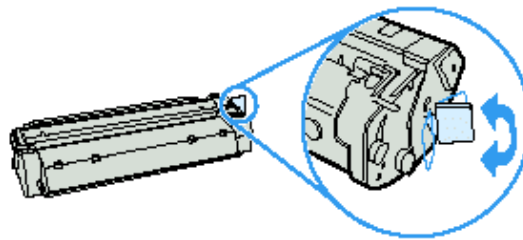

Figure 4. Bending And Breaking The Tab
3. Bend the tab on the right side of the cartridge to break it loose as shown in Figure 4.